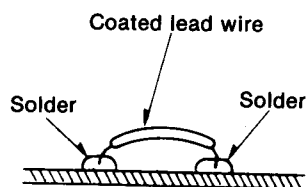

Fig. 3
1. If the chip jumper is removed, connect a coated lead wire to the part. (See Fig. 3). Chip jumper is marked with "J" on the printed circuit board.